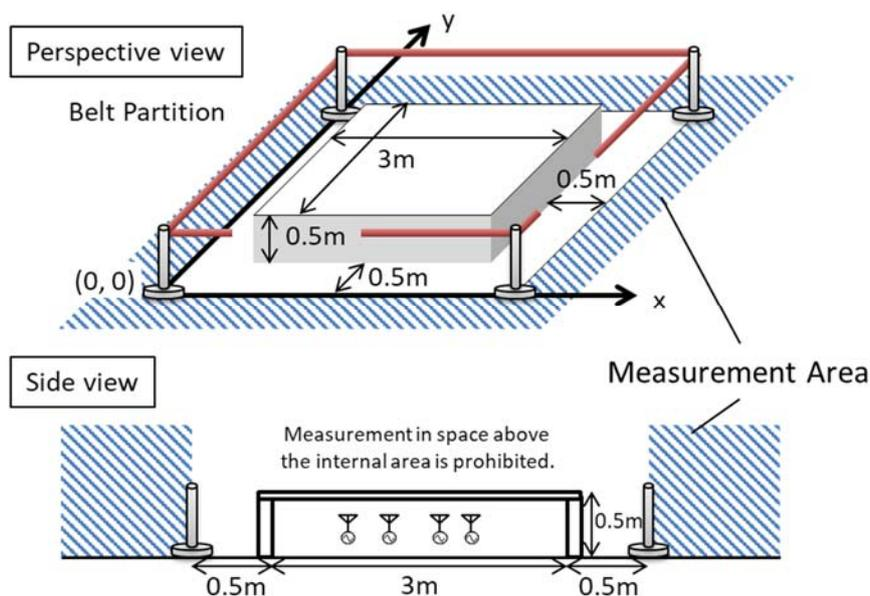

Figure 1 Setup of the transmitters and measurement area.
- In the competition, the transmitters are hidden in an area of 3m x 3m. The finalists will measure the transmitted signals in the measurement area (see Fig. 1), and determine the locations (X and Y coordinates) of the hidden transmitters within a specified time. At most two teams will engage in a competition simultaneously.